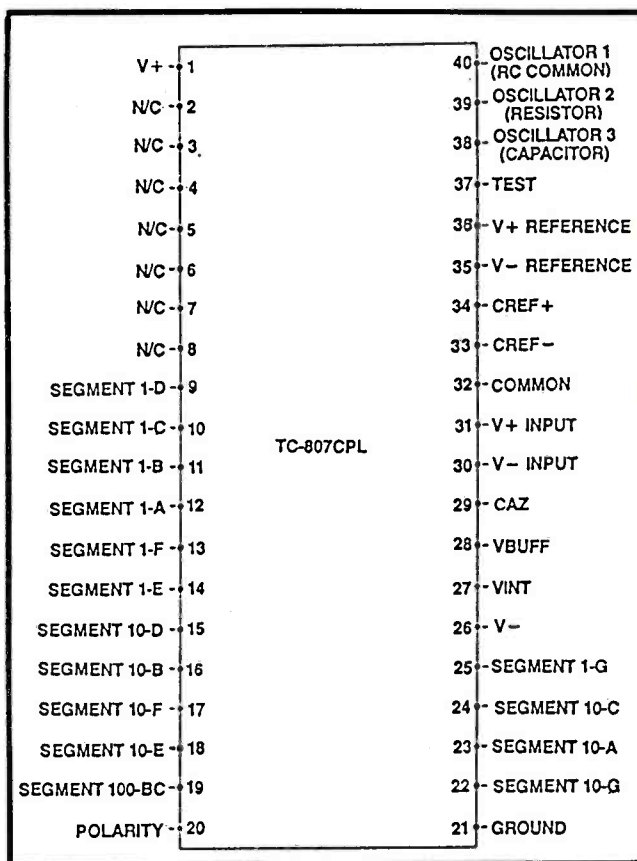

Figure 2. TC807CPL A/D Converter pinout
Figure 2 shows the heart of this design, the Teledyne TC807CPL 2½ digit analog-to-digital converter. This 40-pin integrated circuit (IC) is designed to drive standard 7-segment LED displays WITHOUT external drive electronics. That is, the resistors and transistors normally needed to light 7-segment displays are provided INTERNALLY in this IC. This is a significant saving in parts. Although it would normally require 16 external transistors and up to 48 external resistors to light the 16 segments of 2½ digits, they are not needed with the TC807CPL, since the necessary driver circuitry is built into the IC!
The operation of the TC807CPL is fairly complex, as reflected by the strange designations of some of the pins shown in Figure 2. Most of these functions will be explained—or at least touched upon—in the following section.